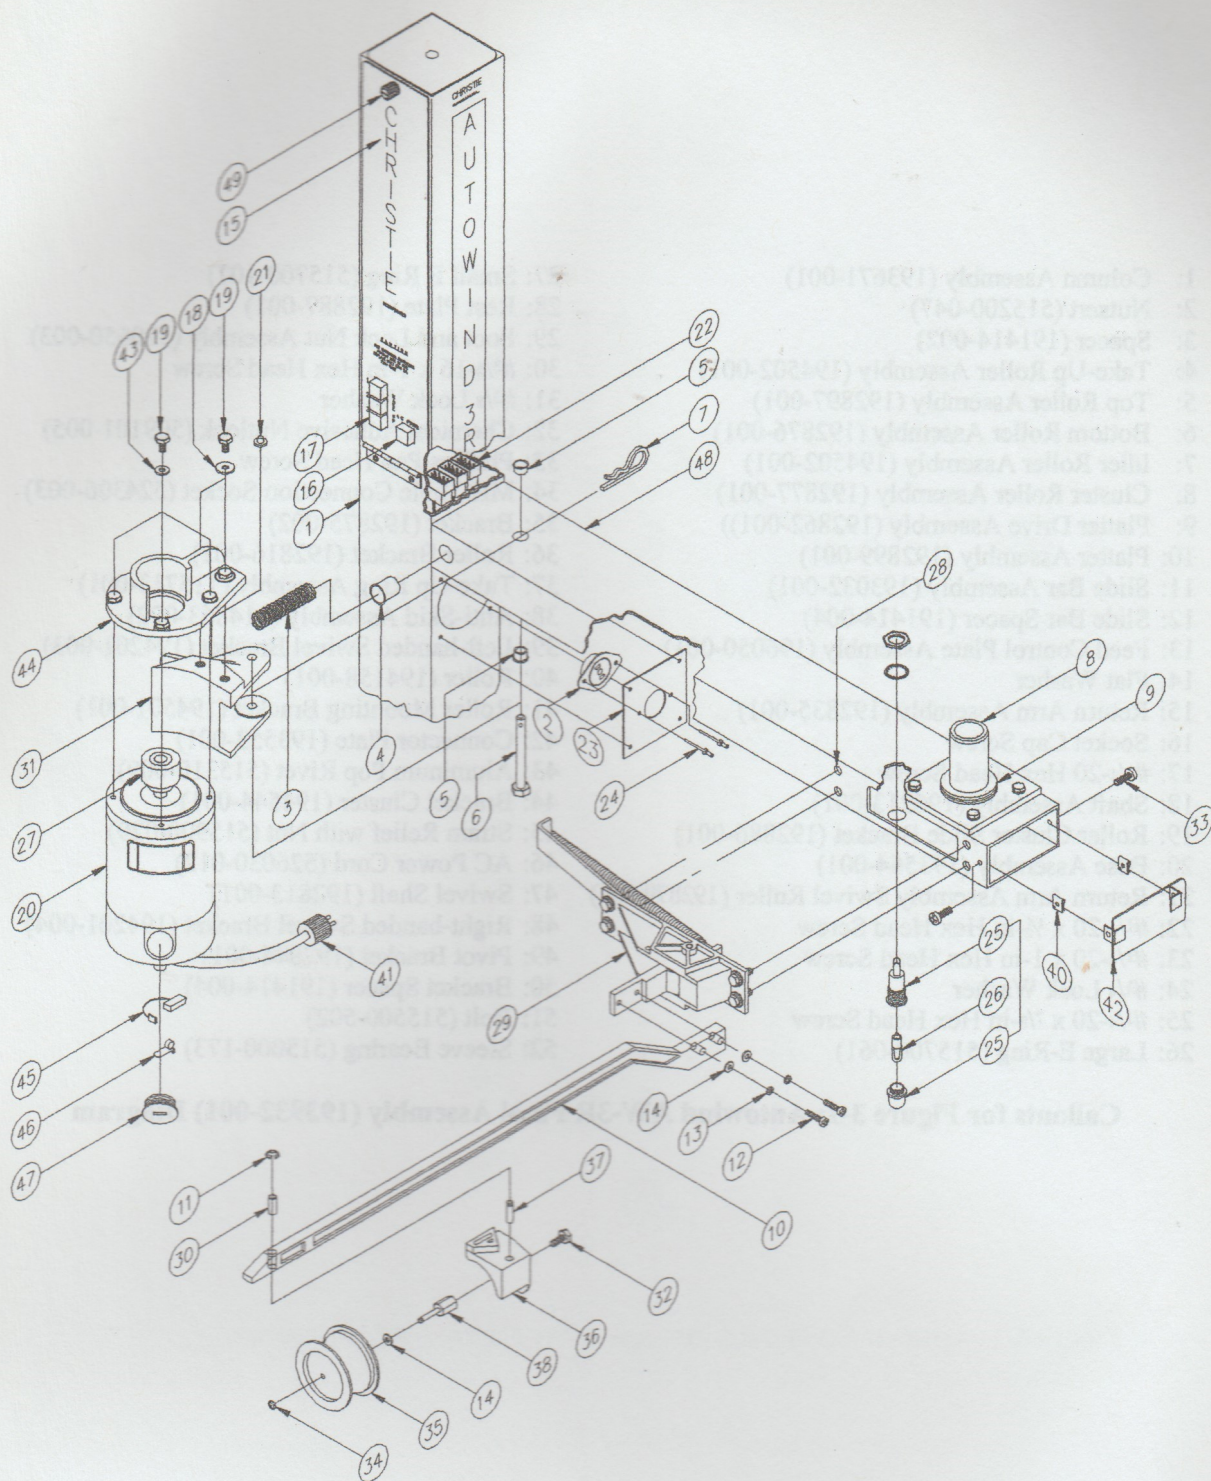

Figure 3-2: Platter Arm Assembly
1. Verify that two flanged bushings (items 5 in Figure 3-2) are in place.
2. Place spring (item 3 in Figure 3-2) in spring housing (item 4 in Figure 3-2).
3. Push motor assembly (item 20 in Figure 3-2) toward support arm, depressing motor tension spring.
5. Insert motor assembly mounting bolt (item 6 in Figure 3-2) upward through holes until mounting bolt protrudes through top of assembly. Insert locking pin (item 7 in Figure 3-2).
Install three return arms (item 10 of Figure 3-2) as shown in Figure 3-2, with roller positioned towards the floor, by securing two screws and washers (items 12, 13, and 14 of Figure 3-2).